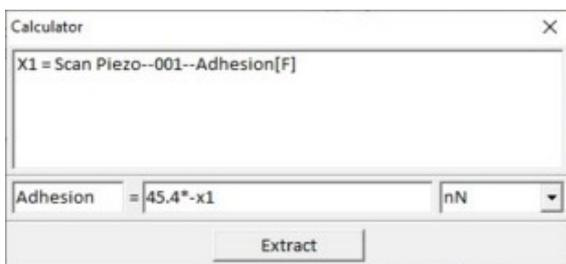

Fig. 2: Calculator tool with equation (10) applied
Using the equation \(1\), with $k = 0.2 \text{ N/m}$ and $s = 227 \text{ nm/V}$ in this specific case, it is possible to calculate the adhesion values measured at each image pixel using the relation (10) in the calculator tool (Fig. 2).